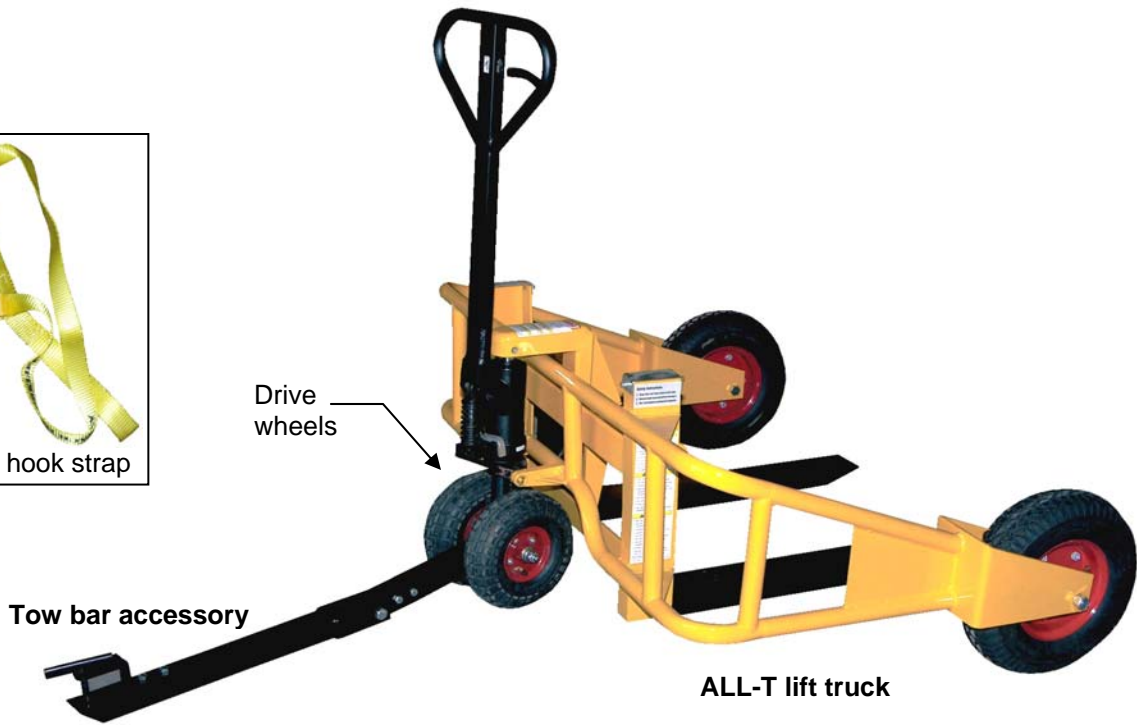

FIG. 1: Front View of Fully Assembled Shed & Parts List
G. Position the connection end (see Fig. 1, p. 1) of the tow bar around the steering shaft and align all of the shaft openings; then insert the wheel shaft.